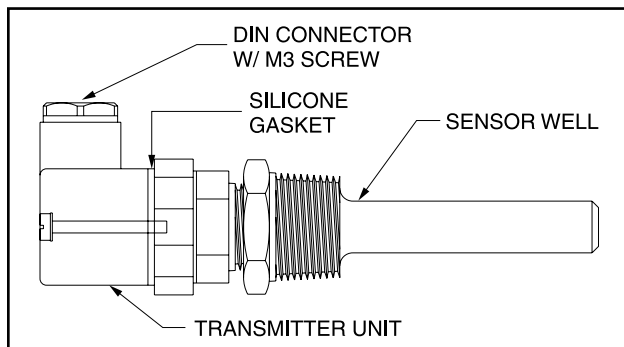

Figure 40 - TEMPERATURE TRANSMITTER
2. Remove DIN connector plug from transmitter. See Figure 40.